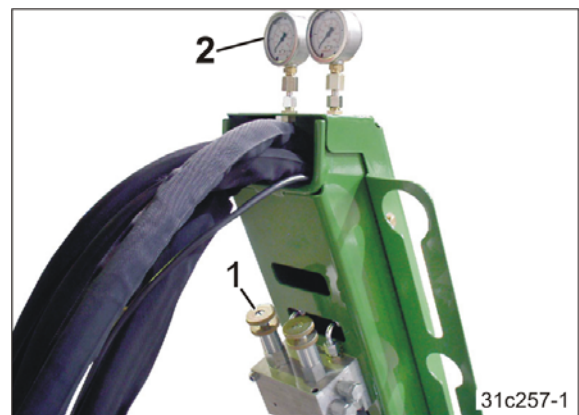

Fig. 110
- the valve (Fig. 110/1) or
- on the pressure gauge (Fig. 110/2),
The pressure displayed on the pressure gauge (Fig. 110/2) changes until the blower fan (singling) runs at a constant speed.